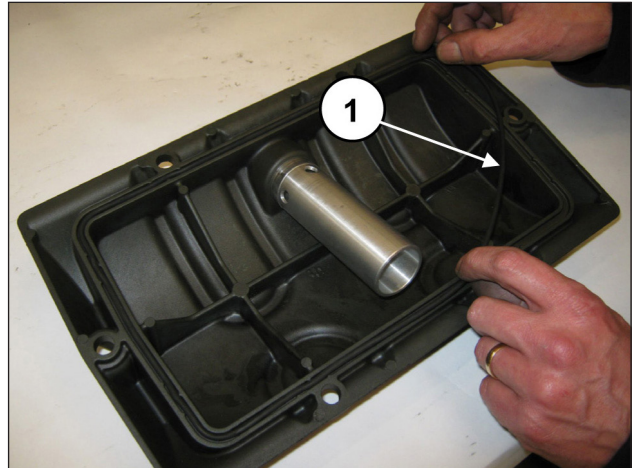
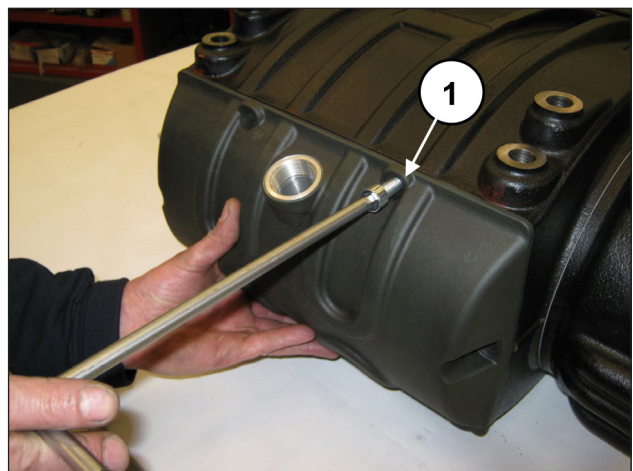

Fig. 70
Fig. 71
Insert the O-ring on the rear cover (pos. ①, Fig. 70) and assemble the cover on the casing with the aid of 6 M10x30 screws (pos. ①, Fig. 71).